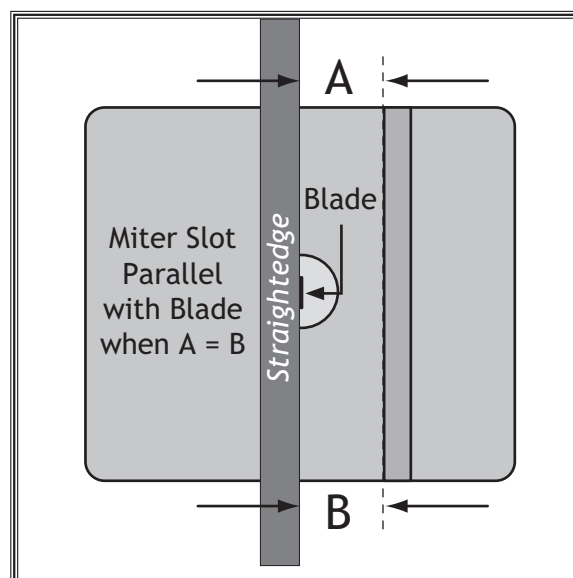

Figure 37. Checking if miter slot is parallel to blade.
5. Use a fine ruler to accurately gauge the distance between the straightedge and the miter slot. The distance you measure should be the same at both the front and the back ends of the miter slot, as indicated by positions "A" and "B" in **Figure 37**.